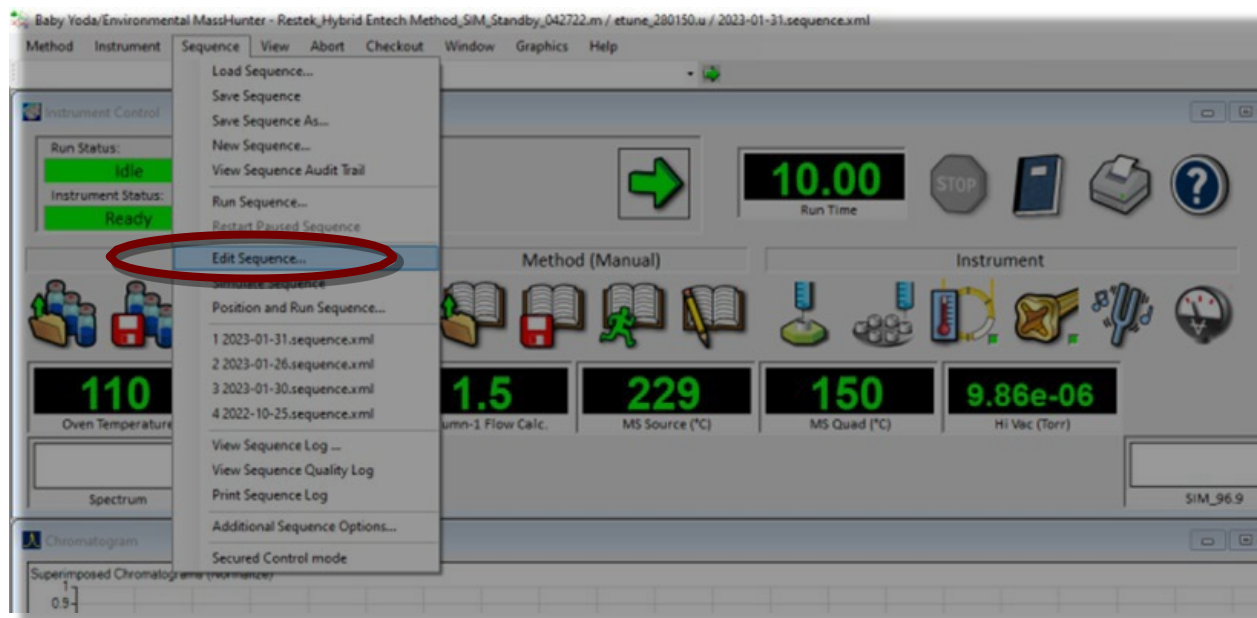

Figure 24. Edit Sequence dialog box.
3. Click **Sequence** and select **Edit Sequence** from the drop-down menu (Figure 24).